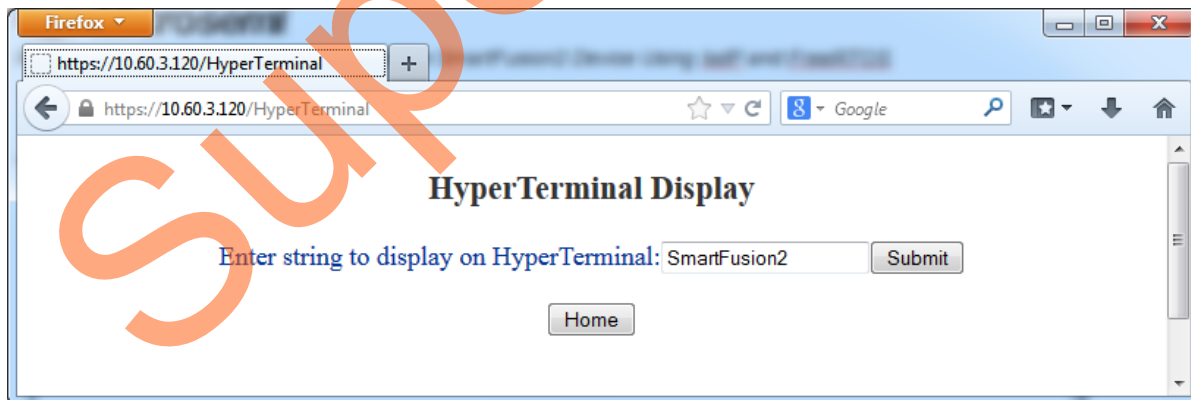

Figure 24 • HyperTerminal Display Page
1. Click **HyperTerminal Display** on the main menu. Figure 24 shows a webpage that gives an option to enter a string value.